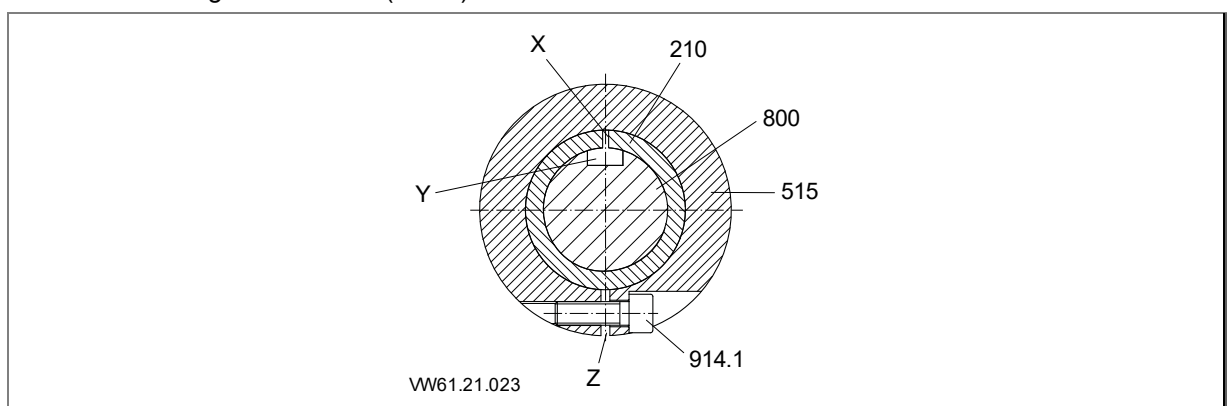

Fig. 8
1. Plug the motor shaft end into the shaft (210). The motor shaft key nut and the slit in the shaft (210) have to be congruent and lay opposite the slit in the supporter ring (515). See "Fig. 8" on page 26